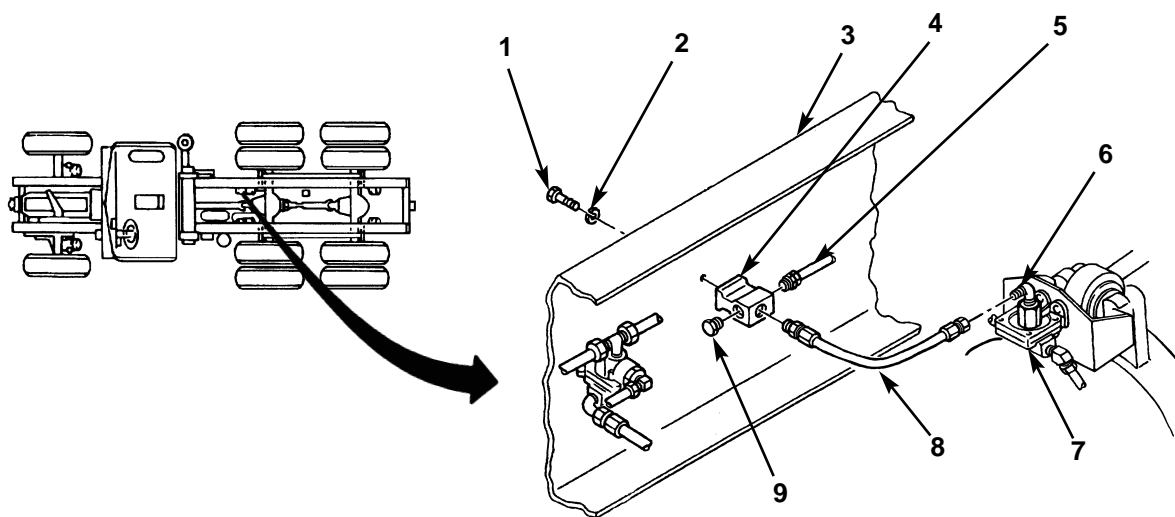
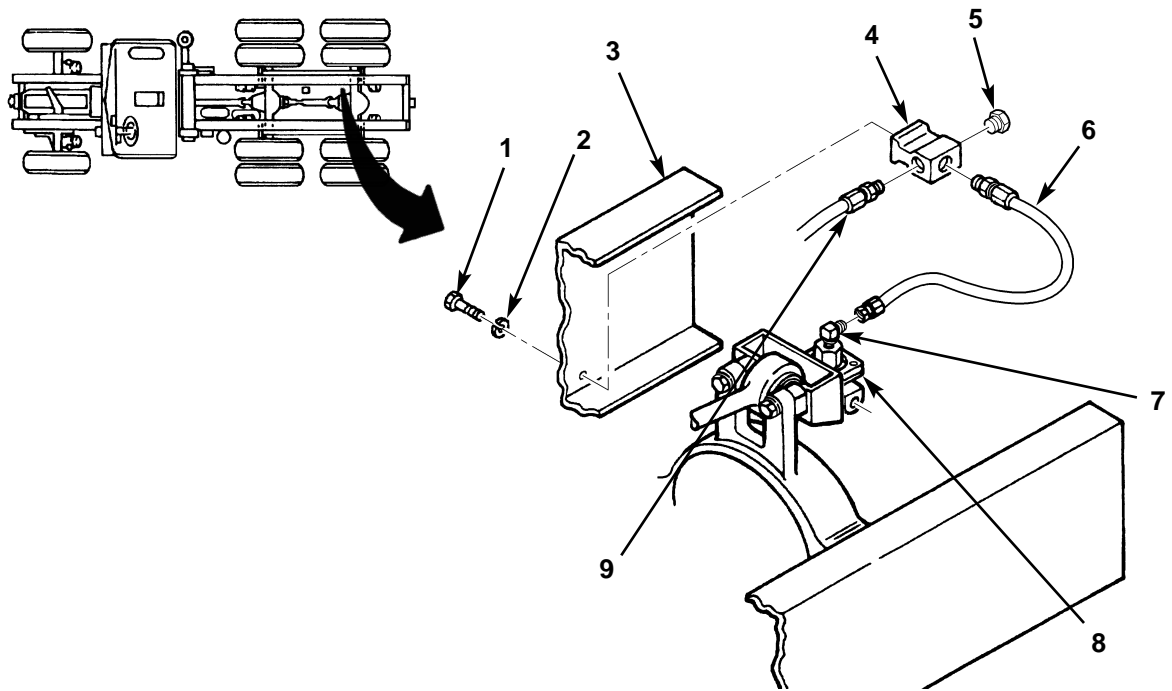

Figure 33. Removing Mountable Tee at Forward-Rear Axle.
Figure 34. Removing Mountable Tee at Rear-Rear Axle.
4. Disconnect tube (figure 33, item 5) from mountable tee (figure 33, item 4), and remove air hose assembly (figure 33, item 8) from elbow (figure 33, item 6) on quick-release valve (figure 33, item 7) and mountable tee (figure 33, item 4).
5. Remove pipe plug (figure 33, item 9) from mountable tee (figure 33, item 4), and remove screw (figure 33, item 1), lockwasher (figure 33, item 2), and mountable tee (figure 33, item 4) from right frame rail (figure 33, item 3) adjacent to forward-rear axle. Discard lockwasher (figure 33, item 2).
6. Disconnect tube (figure 34, item 9) from mountable tee (figure 34, item 4), and remove air hose assembly (figure 34, item 6) from elbow (figure 34, item 7) on quick-release valve (figure 34, item 8) and mountable tee (figure 34, item 4).
7. Remove pipe plug (figure 34, item 5) from mountable tee (figure 34, item 4), and remove screw (figure 34, item 1), lockwasher (figure 33, item 2), and mountable tee (figure 34, item 4) from right frame rail (figure 34, item 3) adjacent to rear-rear axle. Discard lockwasher (figure 34, item 2).